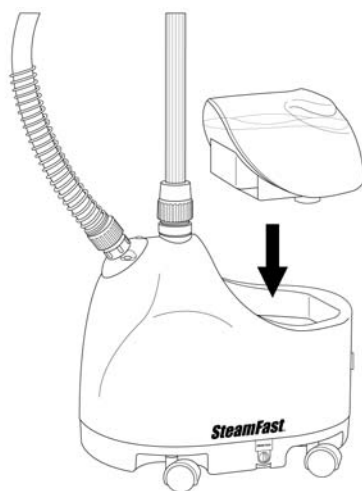

FIGURE 11
5. Place Water Tank back onto main unit (FIGURE 11). The sound of water flowing from Water Tank into Water Reservoir should be audible for a short period of time.